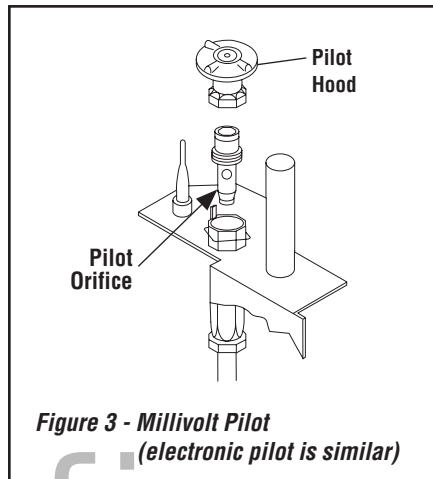

Figure 3 - Millivolt Pilot
Step 9. For pilots using the old clip design, pull up sharply on the pilot hood to remove it (see **Figures 2 and 3**). Remove the pilot hood assembly to access the hex head pilot orifice. Remove and replace the pilot orifice with the one provided in the kit. Reinstall the pilot hood assembly (see **Figure 3**).